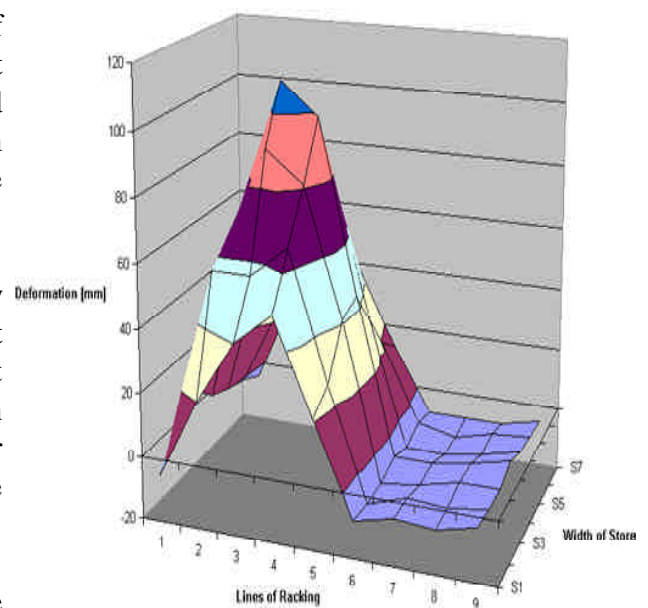

Figure 3 - surface contour map of the frost heave showing 120mm lifting of the half of the floor whose heater mat had been incorrectly installed.
The store measured approximately 40 (L) x 30 (W) x 8 (H) metres and had operated continuously at -25°C for three years prior to any problem being perceived. The store was fully installed with mobile racking and the first sign of a problem that the management noticed was that the motors on the mobile racks were burning out prematurely. Later, cracking was seen on the floor surface and only later still did the rise in floor level become obvious. At this point the company's insurers were called in and later FJB Systems. The largest rise of the floor at the worst point of the heave was then found to be 120mm (see figure 3).